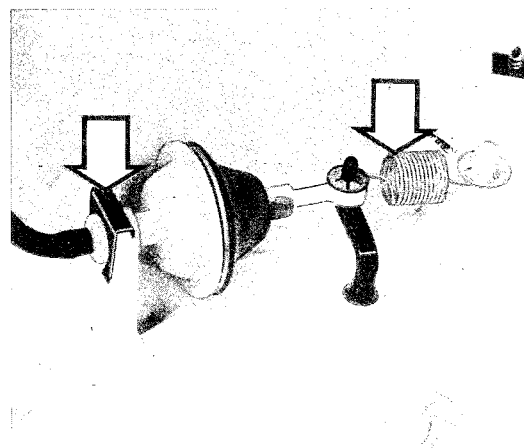

Fig. 8-82. Vacuum motor for air shutter to rear floor
4. Disconnect the vacuum motor locking from the shutter shaft and attachment (Fig. 8-82), and lift forward the motor with vacuum hose.